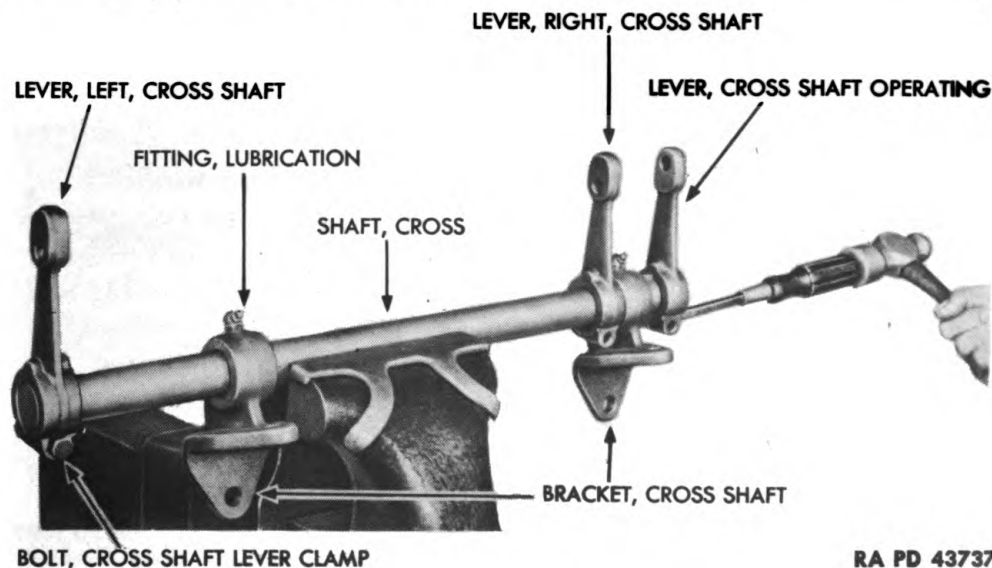

Figure 24—Assembling Cross Shaft
(1) **INSTALL CROSS SHAFT BRACKETS** (fig. 24).
- (2) INSTALL CROSS SHAFT LEVERS (fig. 24).
- (b) Tap screwdriver into clamp slot in cross shaft left lever (fig. 24). Slide cross shaft left lever onto cross shaft so keyway in lever fits over key installed in (a) above.